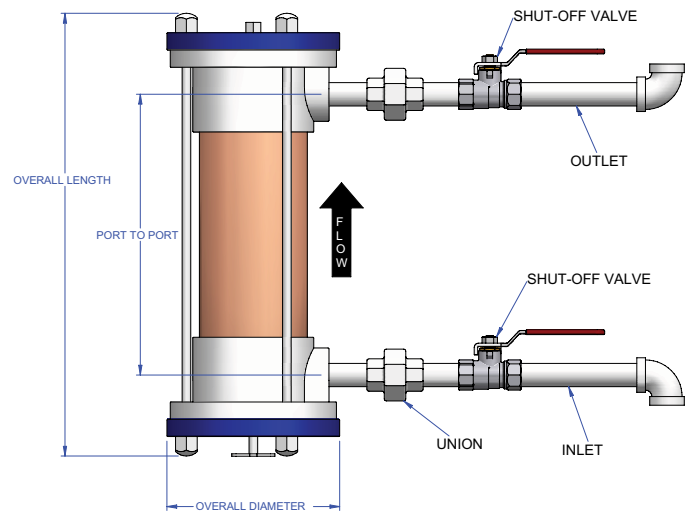

Figure 1 – G-60, G-100, G-150, M-60, M-100 & M-150 Series Assembly Diagram
1. For maximum efficiency, FLO-DRI unit should be installed as indicated in Figure 1.